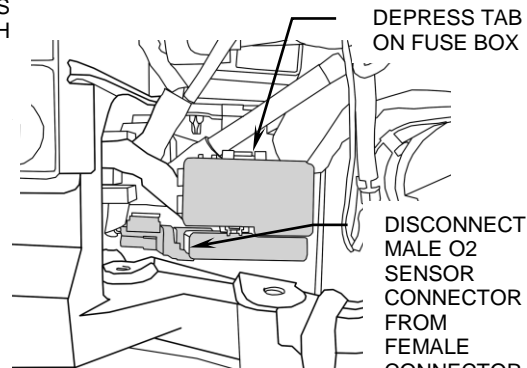
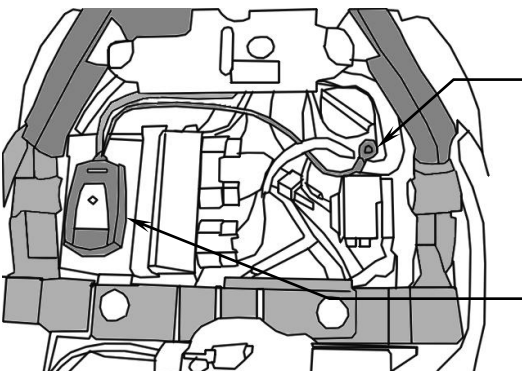

FIGURE 3
FIGURE 4
5. Locate the oxygen sensor on the muffler body near the power valve and trace the wire on it back up to under the seat, where it's male and female connectors are located. Move the fuse block out of the way, by depressing the plastic tab between the housing and the steel-mounting tab, and pull it upward out of the way to gain access to the oxygen sensor connectors mounted on the plastic tab. Disconnect the oxygen sensor by pulling the tab on the female connector outward and pulling the male connector towards the front of the bike, see Figure 3.
6. Using the supplied Velcro pads, place the module in the position shown, in Figure 4. Attach the black ground wire from the Fi2000R to the 5 mm allen head bolt securing the battery ground wire, see Figure 3. Before reinstalling the seat, verify connections.